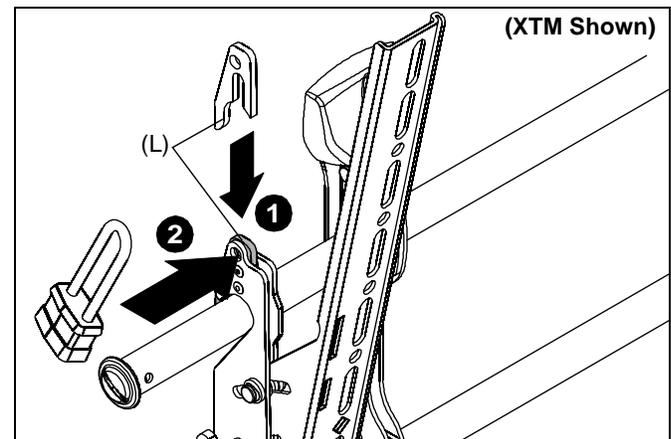

Figure 12
- Add optional security bracket (L) to the mount. (See Figure 12)